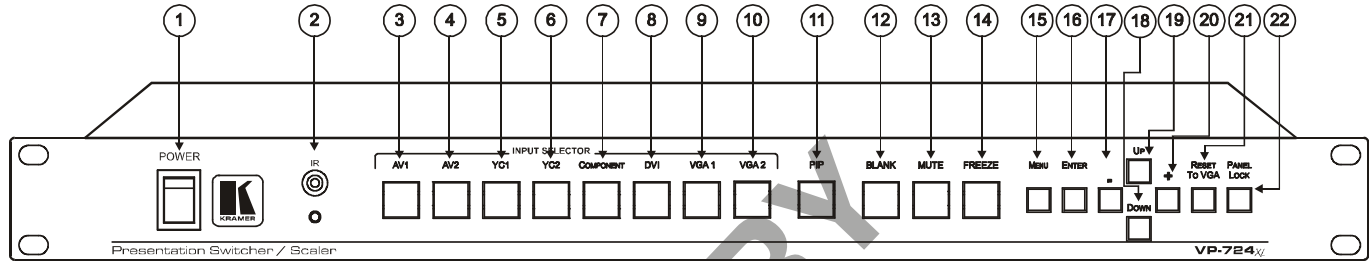
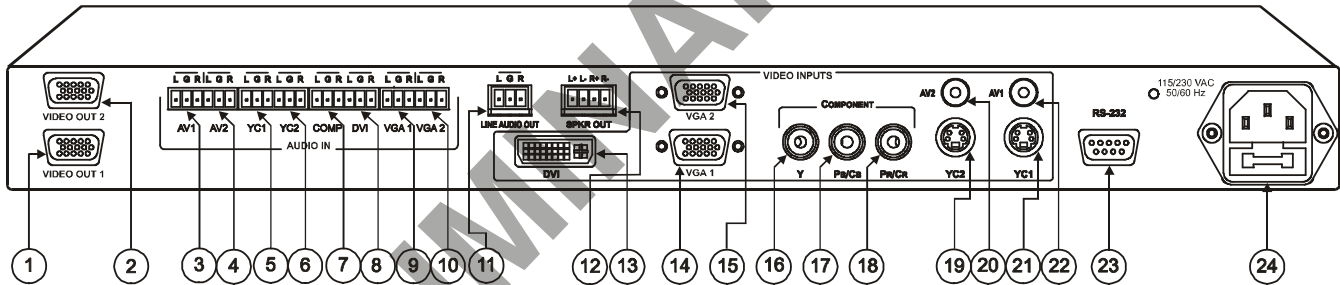

Figure 7: VP-724xl Presentation Switcher / Scaler Front Panel
Figure 8: VP-724xl Presentation Switcher / Scaler Rear Panel
- Figure 7 and Figure 8 illustrate the **VP-724xl** *Presentation Switcher / Scaler*